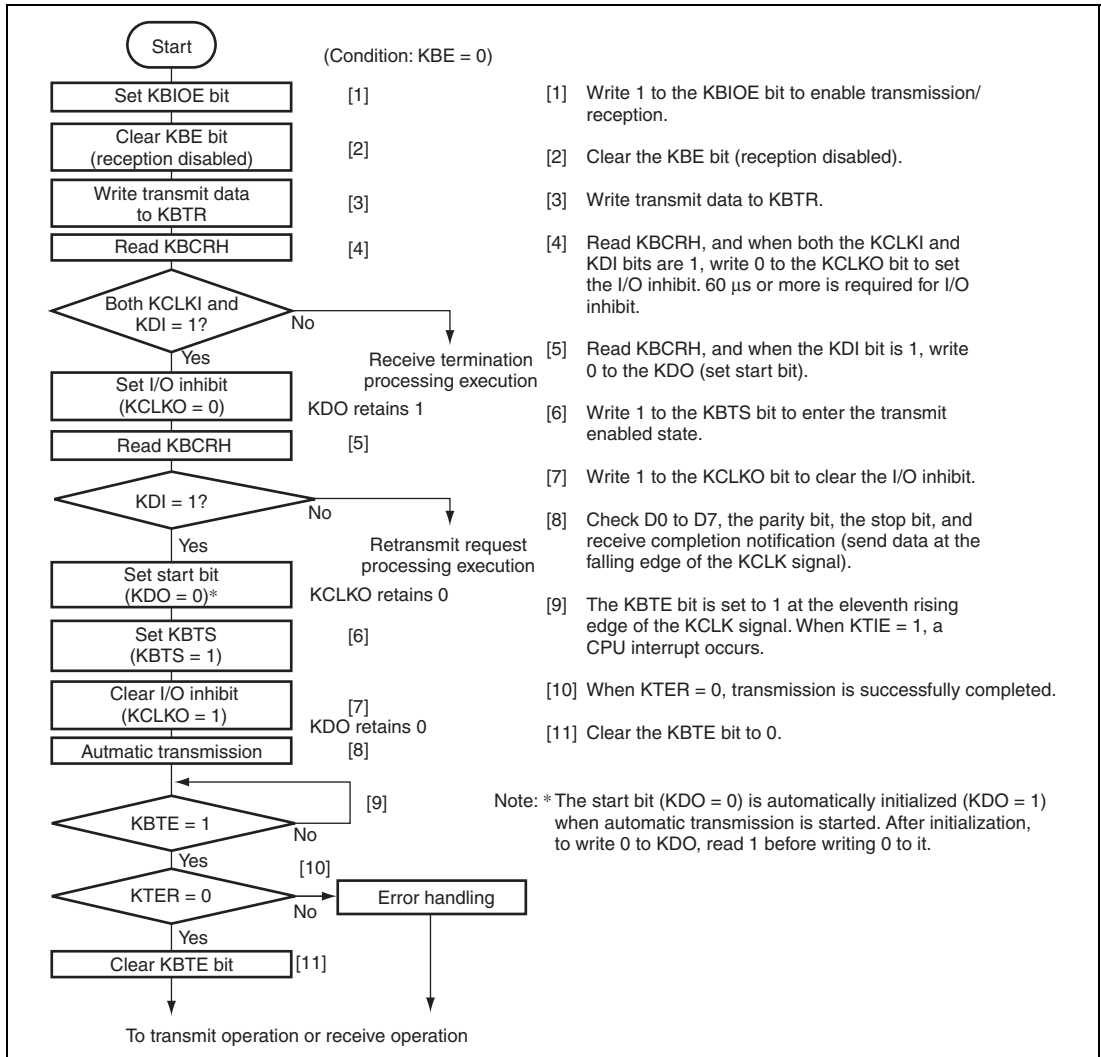
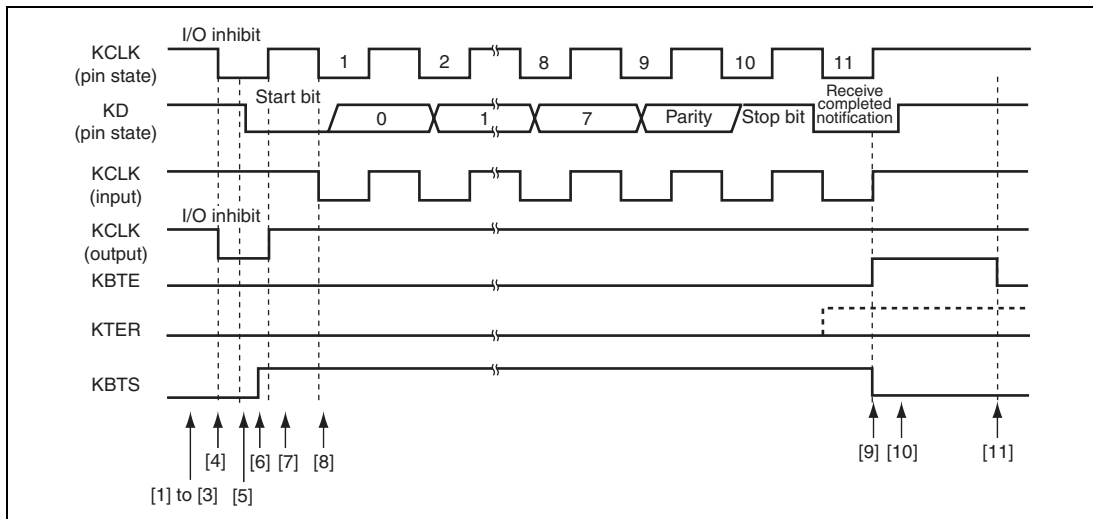

Figure 18.5 Sample Transmit Processing Flowchart
Figure 18.6 Transmit Timing
In a transmit operation, KCLK (clock) is an output on the keyboard side, and KD (data) is an output on the chip (system) side. KD outputs a start bit, 8 data bits (LSB-first), an odd parity bit, and a stop bit, in that order. The KD value is valid when KCLK is high. A sample transmit processing flowchart is shown in figure 18.5, and the transmit timing in figure 18.6.
- The interrupt signal path and flag setting of the first KCLK interrupt in normal operation differ from those in software standby mode and watch mode. Figure 18.6 shows the interrupt signal paths of the first KCLK interrupt.